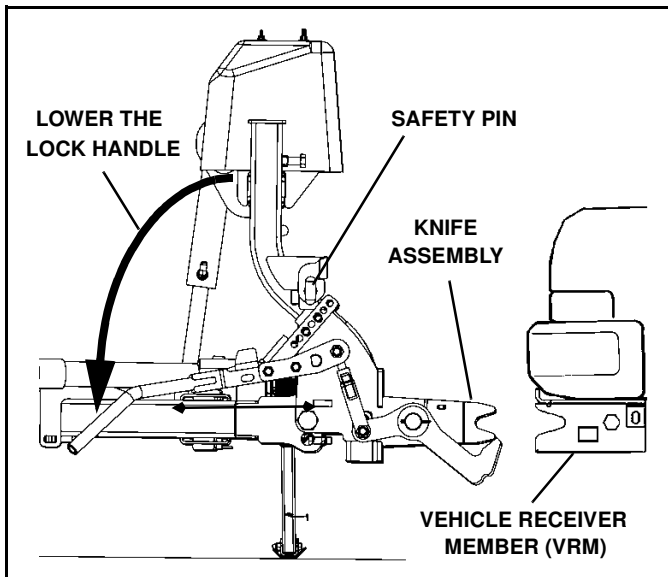

Figure 1-22
22. Release the lock handle safety pin and lower the lock handle fully. (See Figure 1-22).
24. Drive truck up to plow and engage the plow knife assembly with the VRM on the truck. (See Figure 1-22).